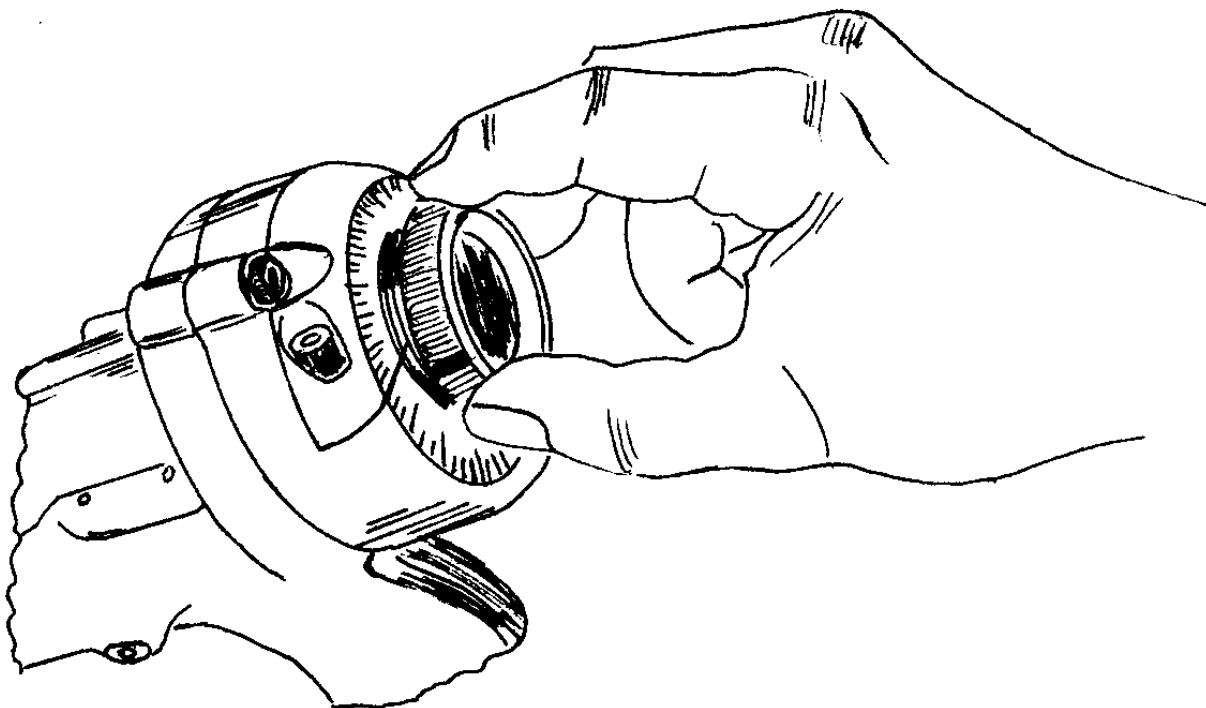

Figure 7 - Adjusting Spindle Length
- 5.3.3.2 If control of the depth adjustment is required than that afforded by the adjustable stops, the spindle length may be adjusted by loosening the clamp screw in the gear cap and rotating the bearing retainer clockwise to increase or counterclockwise to decrease the spindle length (see Figure 7).